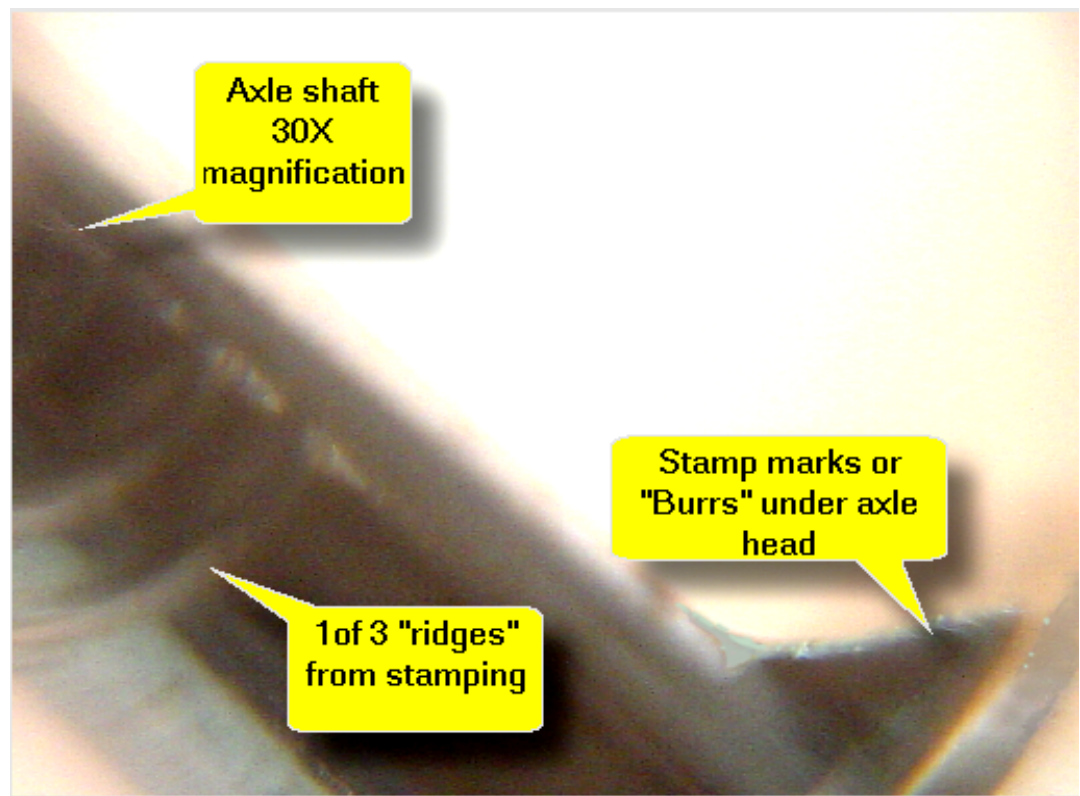

Figure 2 - Magnified view of an axle from a BSA kit showing
- Below in **Fig. 2** is a magnified view (about 30X) of an axle nail showing one of the stamp marks right under the nail head. There are two of these on opposite sides. They need to be filed down as shown in the next topic below.